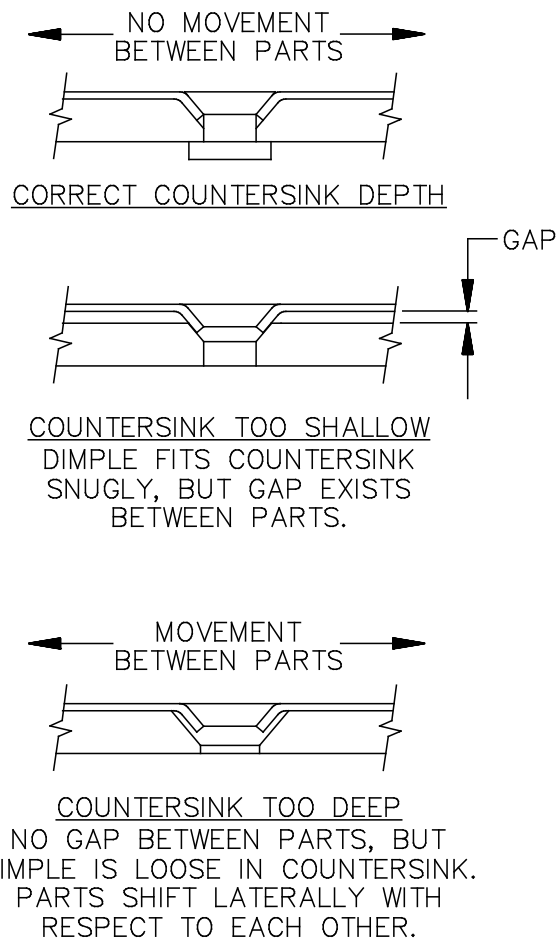

Figure 59: Countersink Adjustment
C) Fit the dimple formed in Step A into the countersink formed in Step B, and check the fit. If, when the dimple is pressed tightly into the countersink, the two pieces are held apart so that a gap exists between them, the countersink is too shallow. Refer to Figure 59. If the pieces fit tightly together without gaps but the dimple is loose in the countersink so that the pieces can shift laterally relative to each other, the countersink is too deep. If the dimple fits snugly in the countersink and the parts fit tightly together without gaps, the countersink depth is just right.